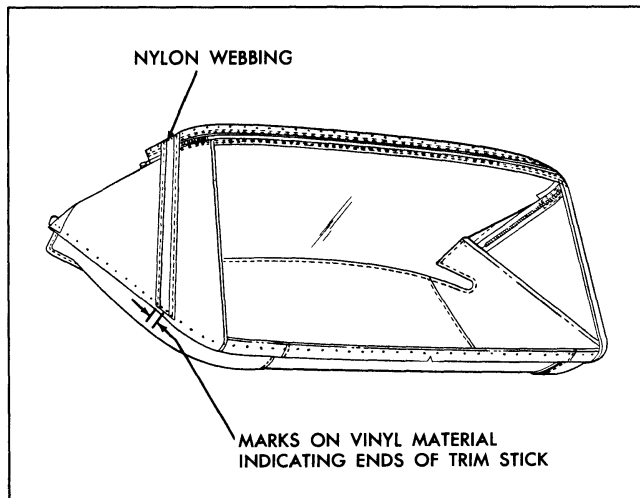

Fig. 22-35 Marking Back Curtain
surface of back curtain material (Fig. 22-35). Reference marks for trim sticks should be transferred to new back curtain material when step 8 of installation procedure is performed.
16. Remove right and left nylon webbing from rear trim stick (Fig. 22-35).